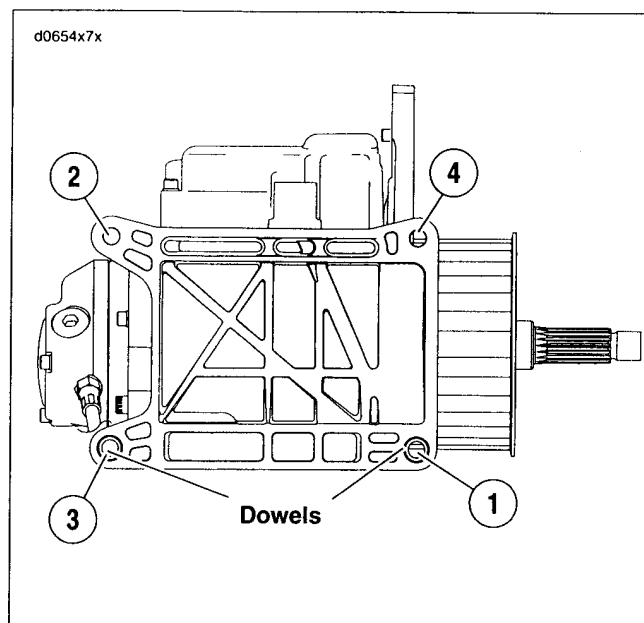

Figure 7-37. Transmission Mounting Bolts
6. See Figure 7-37. Verify that transmission dowels are seated. Tighten all transmission mounting bolts in the sequence shown.